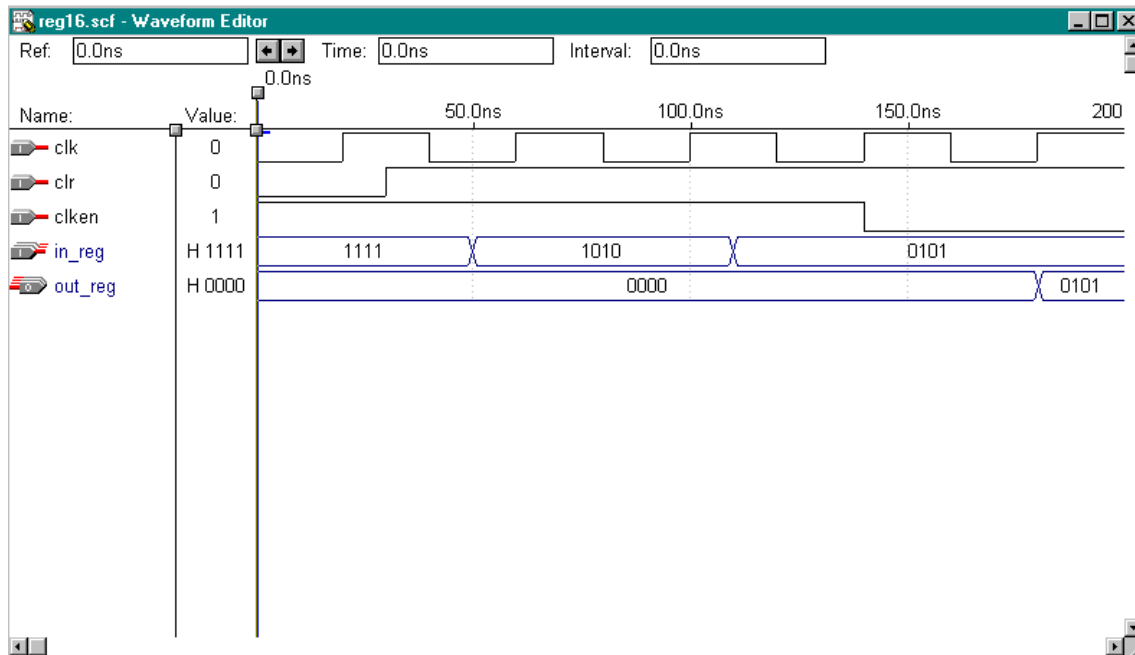

Figure 4-1b.
5. Check to see if you get the same results shown in Figure 4-1b.